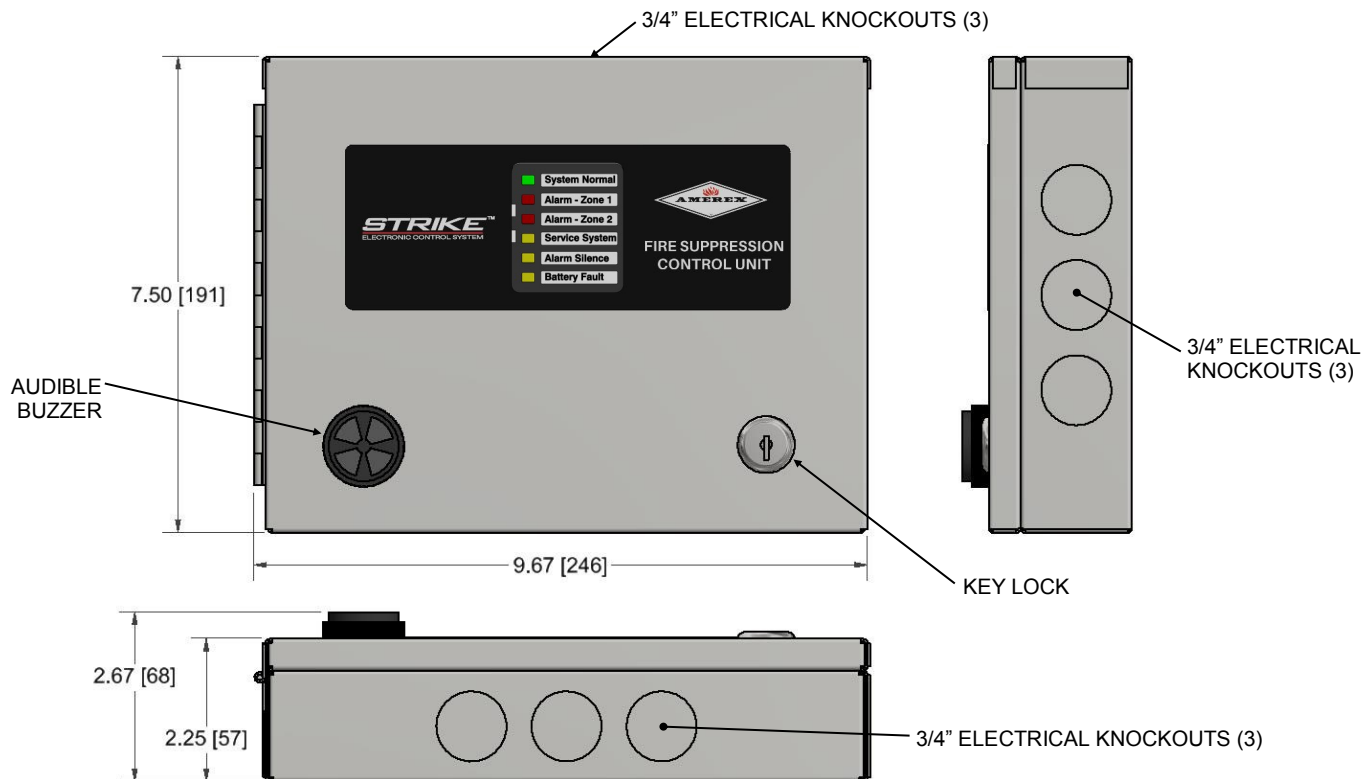
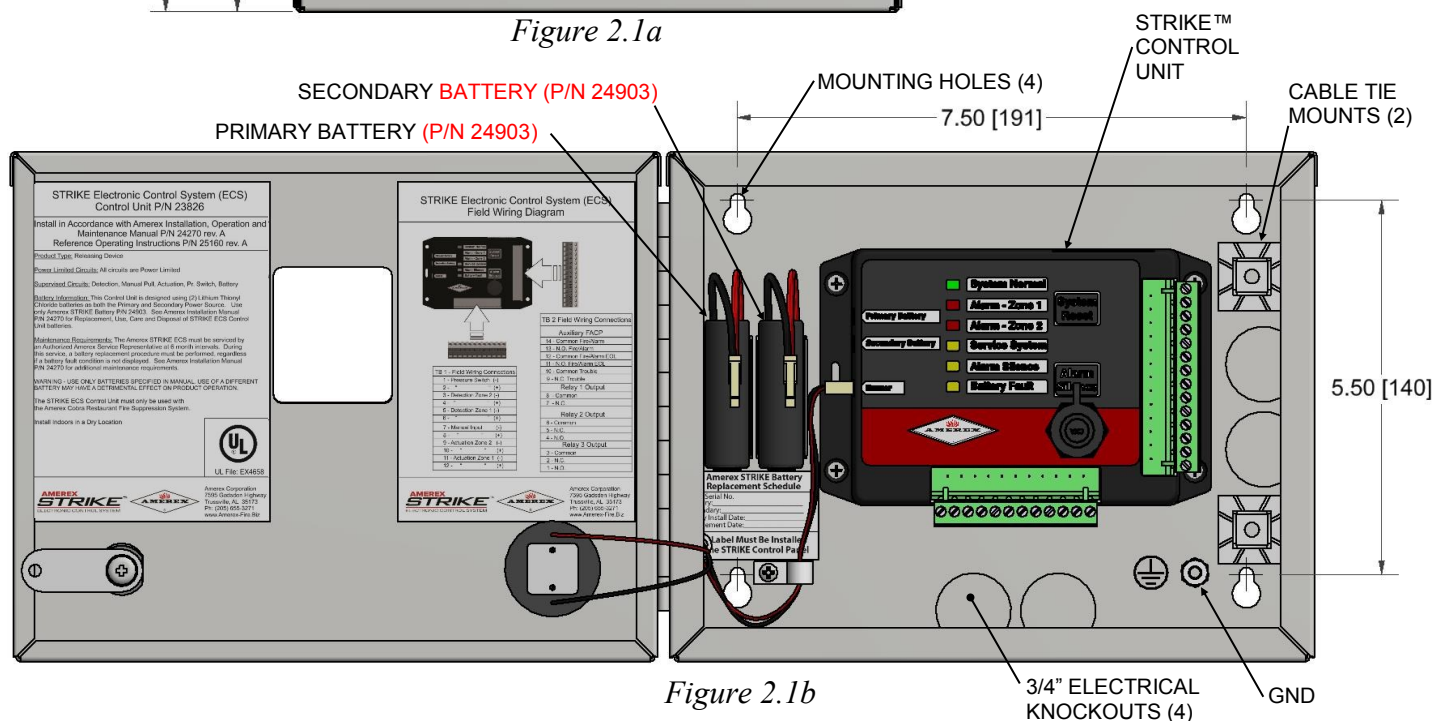
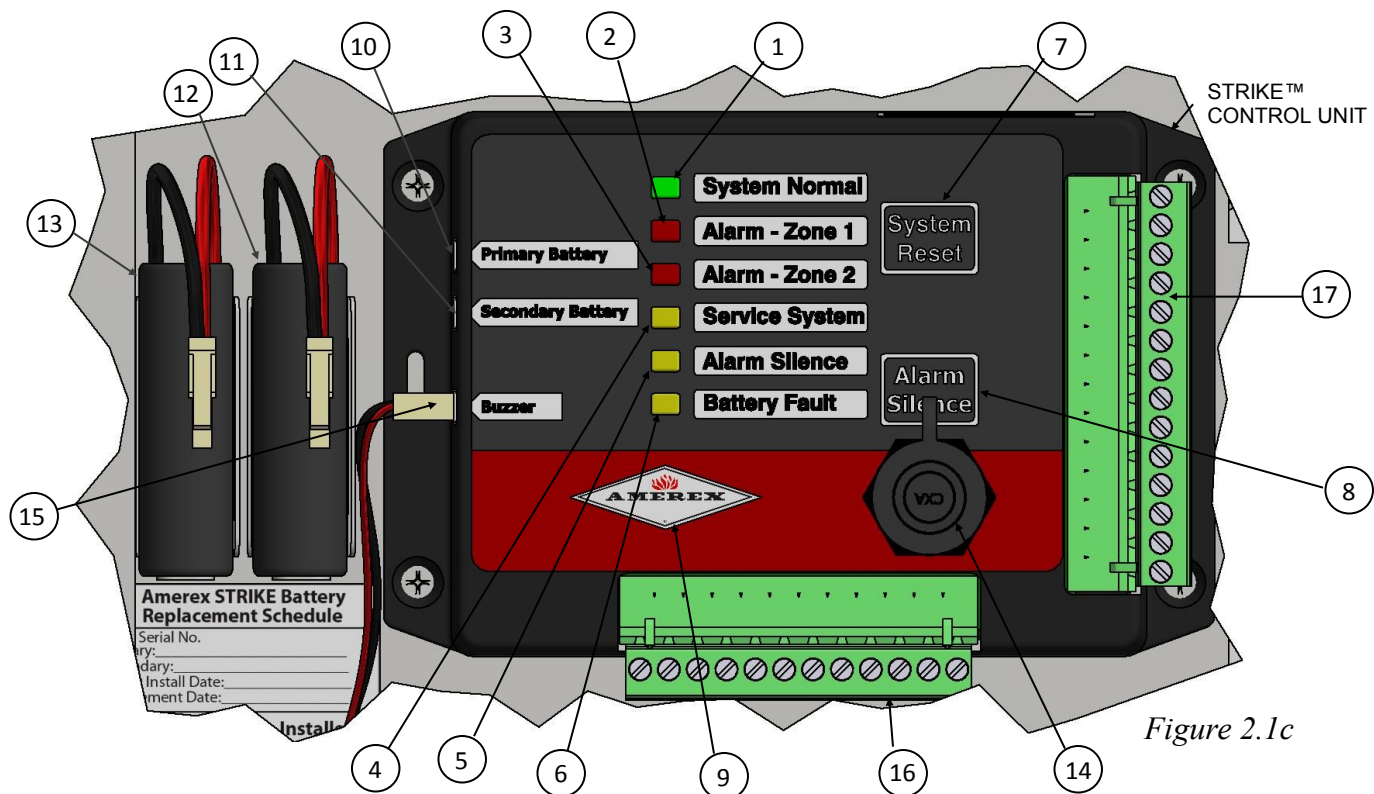

Figure 2.1a
Figure 2.1b
Figure 2.1c
The AMEREX® STRIKE™ ECS Control Unit is an alarm initiating and release unit designed to function without external power. The Control Unit utilizes two non-rechargeable batteries (**provided separately as (2) P/N 24903**) as a primary and secondary (backup) power supply and will sustain itself for up to six months. The Control Unit and batteries are housed within a protective stainless steel enclosure that can be surface mounted to a wall or other surface. The enclosure features a hinged, lockable door for internal access. All field wiring enters the enclosure through electrical knockouts and terminates to the labeled terminal boards on the Control Unit. Enclosure dimensions and features are shown below (See Figure 2.1a), along with an open enclosure (See Figure 2.1b). Control Unit front face indicators and features are also shown on the following page (See Figure 2.1c/Table 2.1a & 2.1b). All dimensions are in inches [mm].